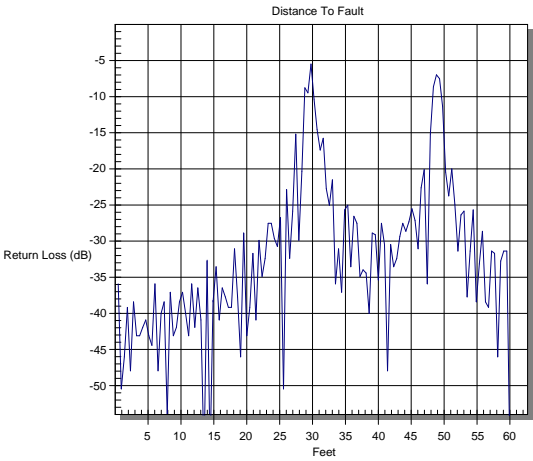

Figure 2-4. Rectangular Windowing Example
*In situations where there may be a small discontinuity close to a large one, side lobe reduction Windowing should be used. When distance resolution is critical Windowing can be reduced. The types of Windowing in order of increasing side lobe reduction are: rectangular, nominal side lobe, low side lobe, minimum side lobe. Figures 2-4 thru 2-7, on pages 2-14 and 2-15, are examples of the types of Windowing.*